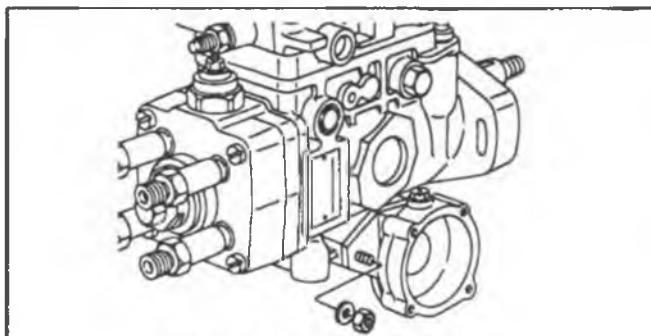

Fig. 4-35 CSD Housing Removal
- Remove the two housing securing nuts and remove the housing and "O" ring (Fig. 4-35).